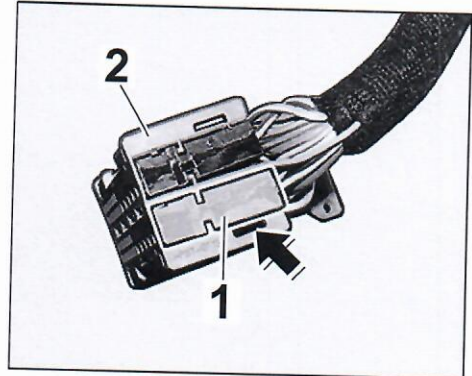

Figure 35
- 4.6.4 Slide grey plug socket ⇒ *Figure 35-1-* into the plug carrier ⇒ *Figure 35-2-* until the locking mechanism ⇒ *Figure 35-arrow-* engages.